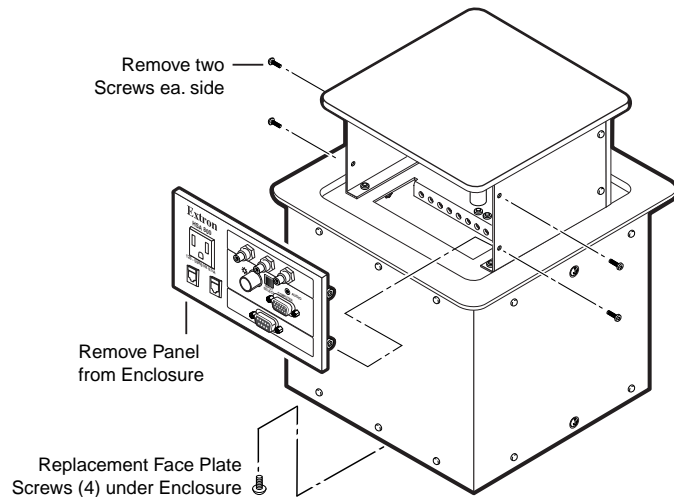

Figure 3-1 — Removing the front panel
2. Remove the four Allen screws on the right and left sides of the front panel (figure 3-1). Retain the screws. Lift the panel away from the enclosure.
1. Remove the four Allen screws on the right and left sides of the front panel (figure 3-1). Retain the Allen screws. Lift the panel away from the enclosure.
3. On all connector/AAP panels and/or blank panels, remove the four screws on the right and left sides of the front panel (figure 3-1). Retain the screws. Lift the panels away from the enclosure as far as the connected cables allow.